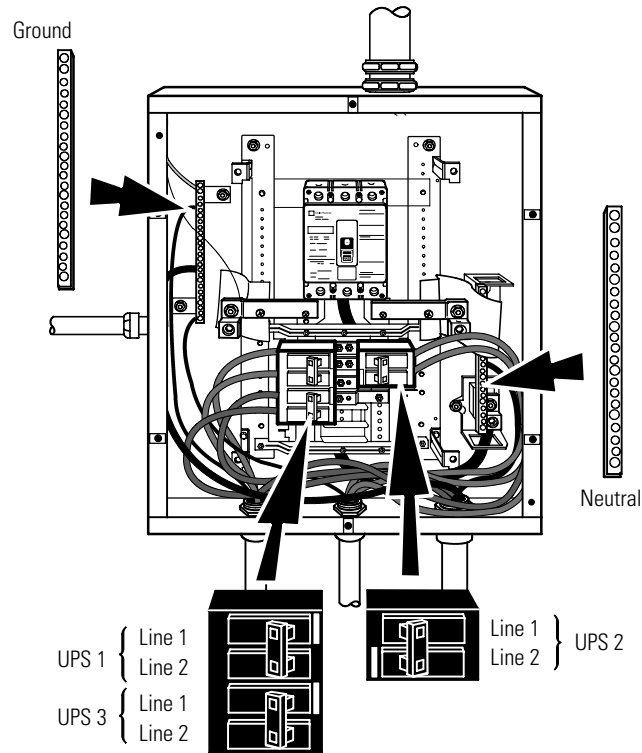

Figure 11. UPS Output to Parallel Tie Cabinet Wiring
13. Hardwire the output terminations (TB1-6 through TB1-9) from each UPS to the parallel tie cabinet (see Figure 11).